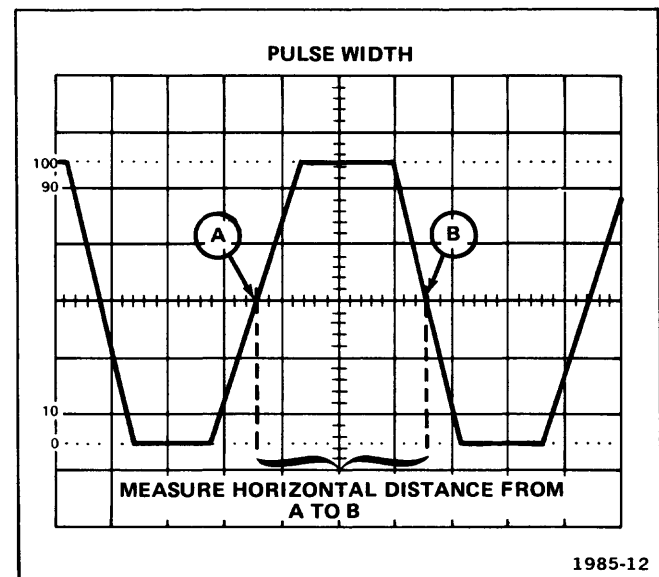

Fig. 1-8. Measuring the pulse width of a displayed waveform.
6. Set the TIME/DIV switch and POSITION control for 1 complete pulse displayed within the center 8 graticule divisions as shown in Figure 1-8.
7. Measure the horizontal distance in divisions between the 50% amplitude points of the displayed pulse (see Figure 1-8).
Example: Assume that the horizontal distance between the 50% amplitude points is 3 divisions, and the TIME/DIV switch setting is .1 ms (see Figure 1-8).